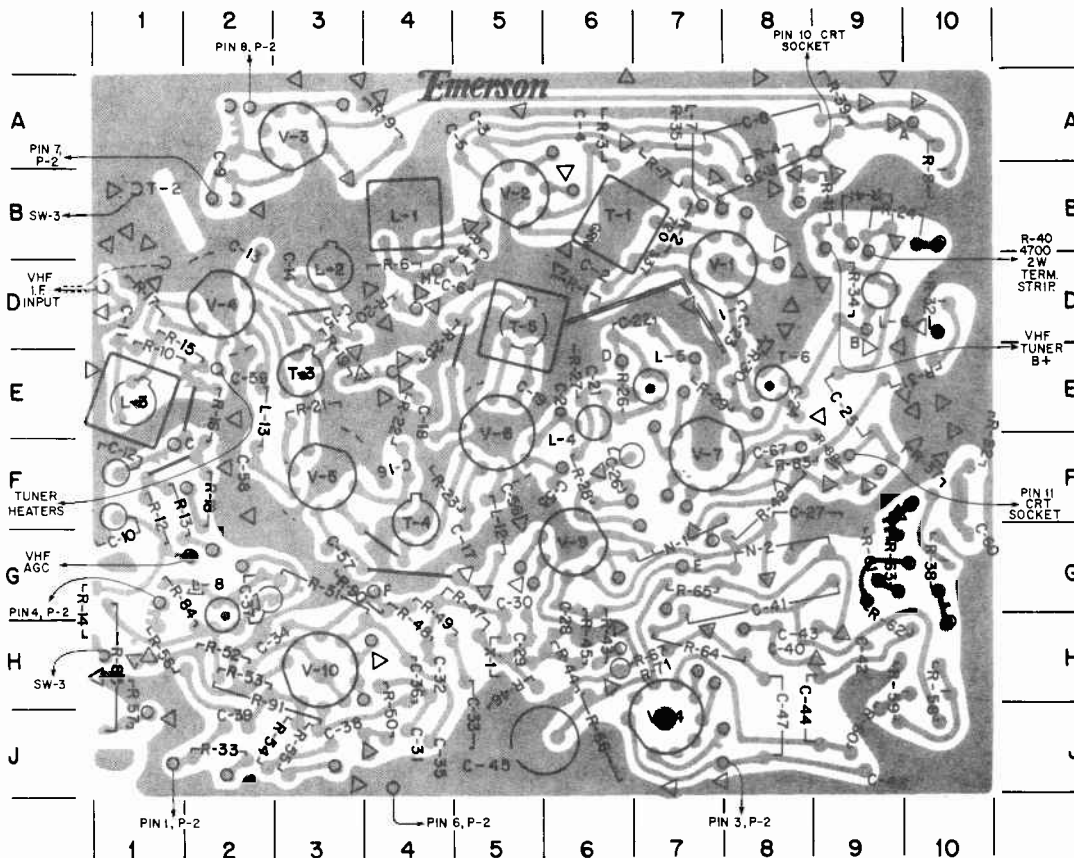

FIG. 1 - ETCHED PRINTED CIRCUIT BOARD CHASSIS (TOP VIEW)
SYMBOL-COORDINATE CHART - REF. Fig. 1 and 3
C. Connect —3 volts bias through a 10K resistor to AGC test point C (junction of R-15, R-16 and C-12 (See fig. 1).
2. Connect VTVM (—5 volt range) to video detector test point D (junction of L-5A and L-5B (See fig. 1).